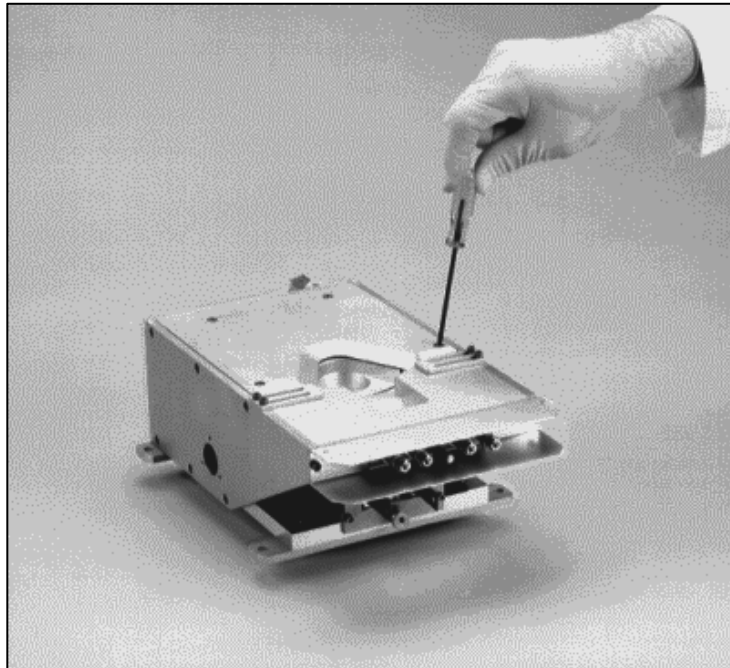

Figure 5-1. Removing the Crucible Cover
Step 1: Using the Allen tool provided with the unit, remove the 4 socket-head screws that secure the crucible cover to the coil housing (see Figure 5-1). Then remove the cover.